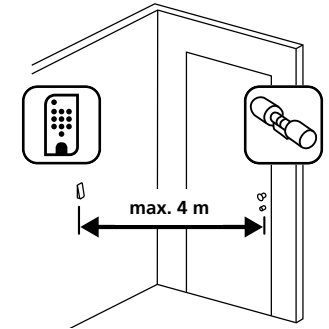

Fig. 1
- ① Place the keypad in the desired installation location (Fig. 1).
- 1 Drill three holes according to the dimensions shown in the illustration. Use a 6 mm diameter drill bit (Fig. 1).